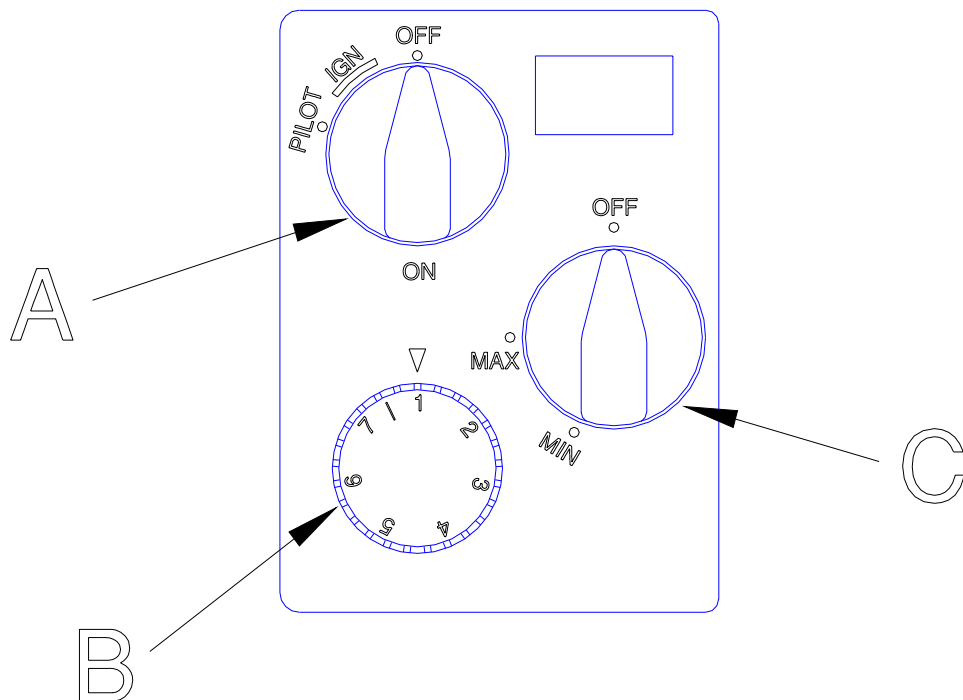

Fig 5: Control Panel.
Refer to Fig 5.
2. Check that the control knob "A"(Fig 5) is in the off position, the thermostat knob "B" is turned to its Highest setting (7) and back burner control "C" should be in the off position.